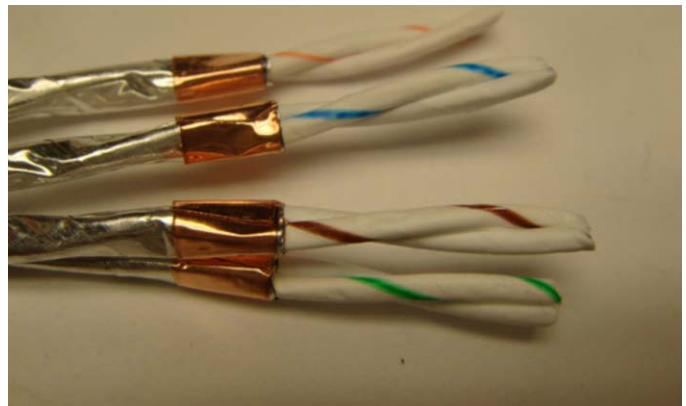

Figure 12: Cutting the foil
7. With cutters, cut the foil on each pair where it meets the tape (Figure 12). Tear the foil along the edge.